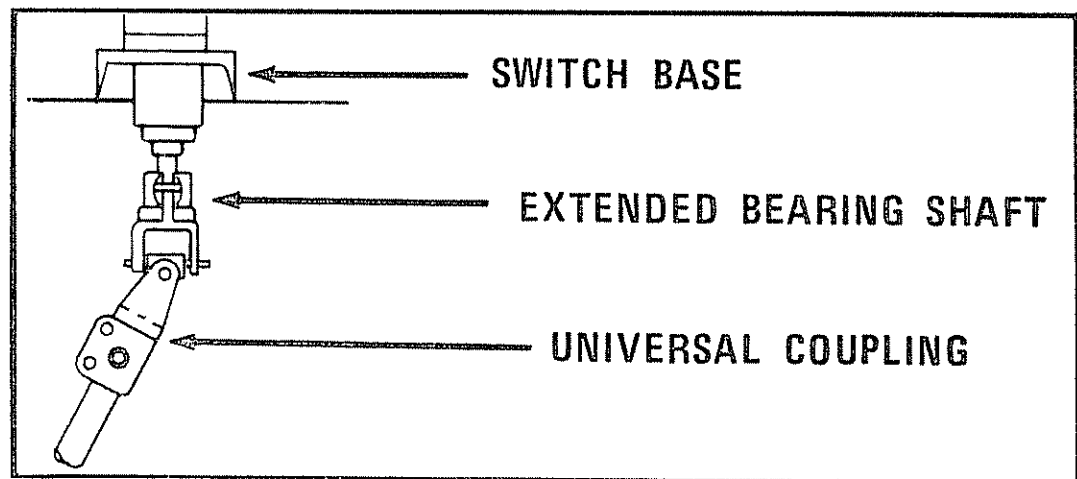

FIGURE 5
6. Mount the hinge and blade assembly as directed in figure 5. Be sure that the match marks made earlier are aligned.
- E. Attach universal coupling to extended switch bearing shaft. (See Fig. 5)